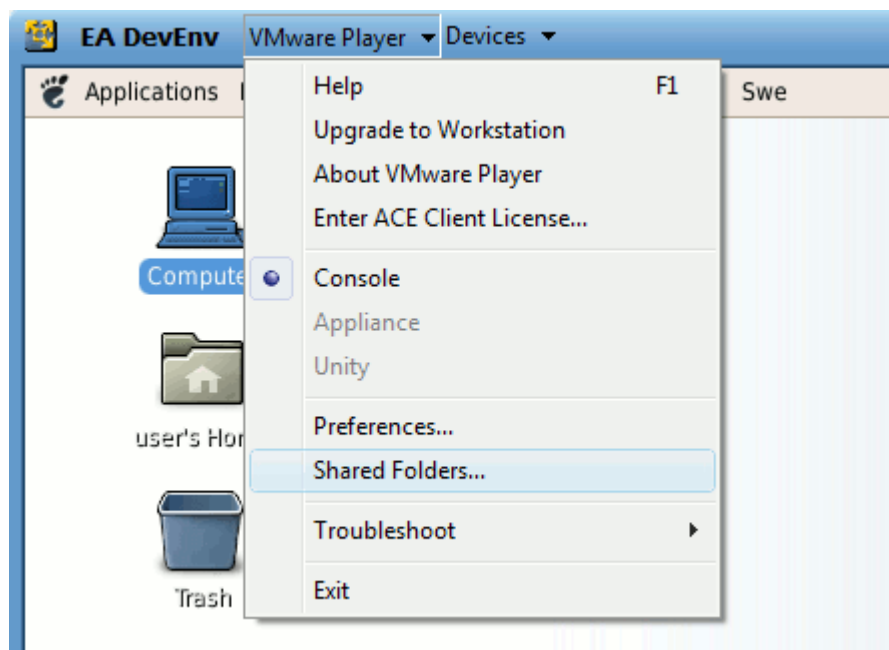

Figure 10 Shared Folders Menu
2. Select the Shared Folders menu alternative, see Figure 10.